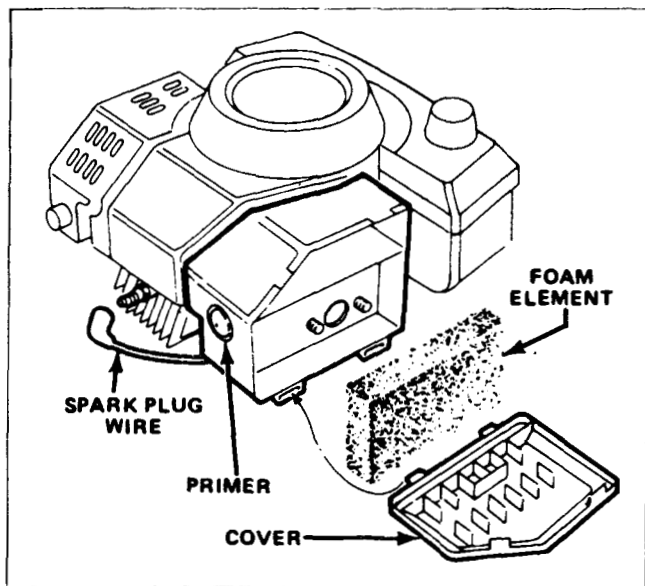

Figure 13
3. If the outside of the foam element is dirty, remove it from the air cleaner body. See Figure 13. Clean thoroughly.
1. Stop the engine and pull the wire off the spark plug. See Figure 13.